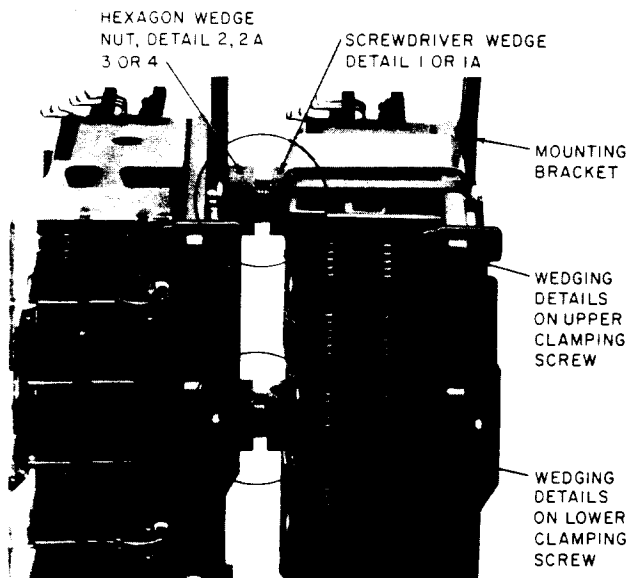

Fig. 22—Wedging Details in Place on Upper and Lower Clamping Screws
3.65 For the lower clamping screw, repeat steps 3.60 through 3.64. See Fig. 22.